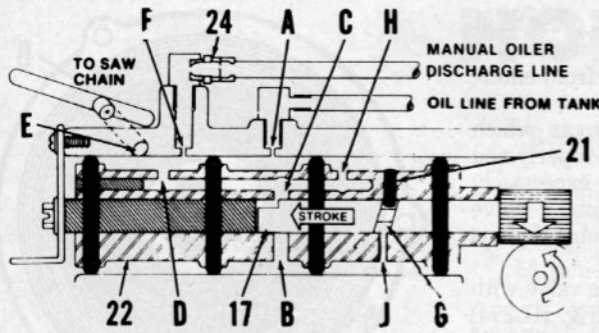

Fig. HL276—Cross-section of oil pump. Refer to text for operation.
plunger (17—Fig. HL276) as it reciprocates due to cam pin (21) located in cam groove (G). Oil enters pump through port (A) and passes around pump body (22) to enter plunger bore through port (B). Oil exits through ports (C, D and E) to saw chain. Oil may be pumped through port (F) and fitting (24) to manual oil pump. Oil is also routed through ports (H and J) to cam groove to reduce back pressure on oil plunger.
Fig. HL279—Exploded view of manual oil pump. End of oil line (12) is connected to fitting (24—Fig. HL276). Oil line (12) must be disconnected from fitting and pulled into air box for removal.